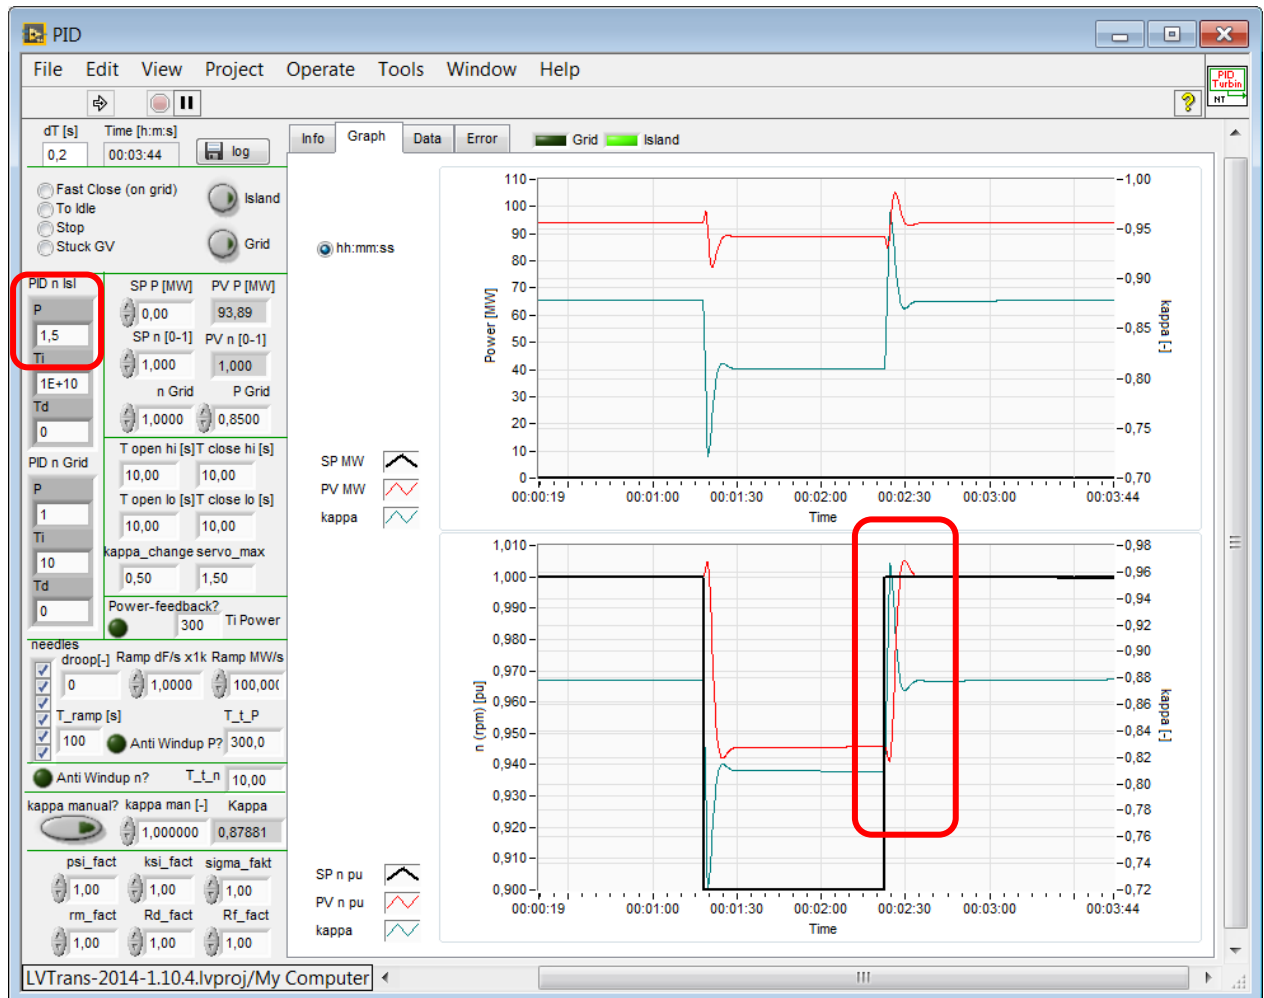

Figure 11.6 The governor as in point 6
6. Increase/decrease K_p until you can see only one top. This requires a bit of practice and can be very difficult on some plants. See Figure 11.6